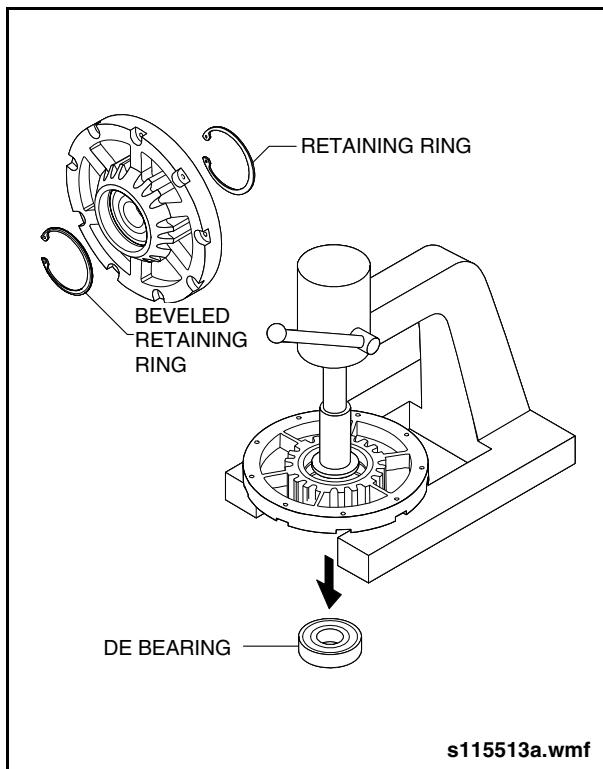

Fig. 9-21: DE Bearing Removal
- c. Press bearing out of drive housing from back side of housing. See "Fig. 9-21: DE Bearing Removal" on page 28.